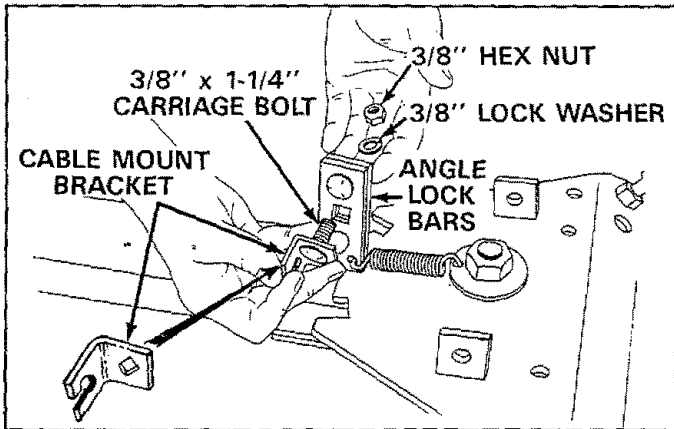
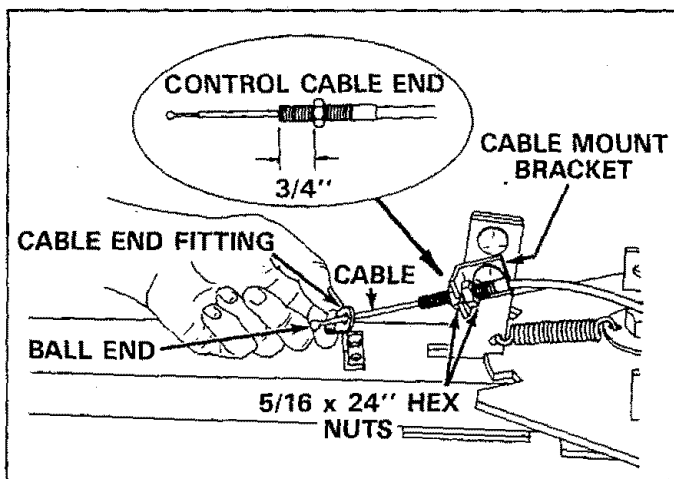

FIGURE 6
FIGURE 7
5. Assemble 3/8" x 1-1/4" carriage bolt through square hole in cable mount bracket and through square hole in lock bars. See figures 6 and 7. Hold cable mount bracket in position as shown in figure 7 and secure with 3/8" lock washer and 3/8" hex nut.
6. Assemble one 5/16-24" hex nut onto threaded end of control cable approximately 3/4" from end. Assemble threaded cable end through round hole in cable mount bracket and secure with another 5/16-24" hex nut. See figure 7.
7. Assemble ball end of cable through round hole in cable end fitting and into slot of fitting. See figures 7 and 8.